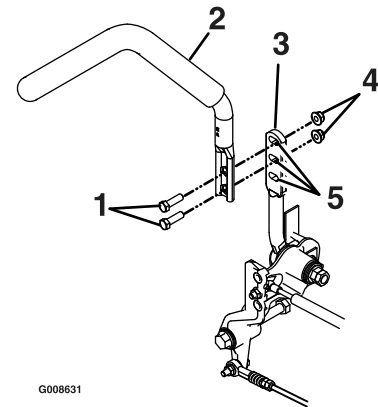

Figure 73
1. Remove the two bolts holding the control lever to the control arm shaft (Figure 73).
2. Loosen the lower bolt just enough to pivot the control lever fore or aft Figure 73. Tighten both bolts to secure the control in the new position.